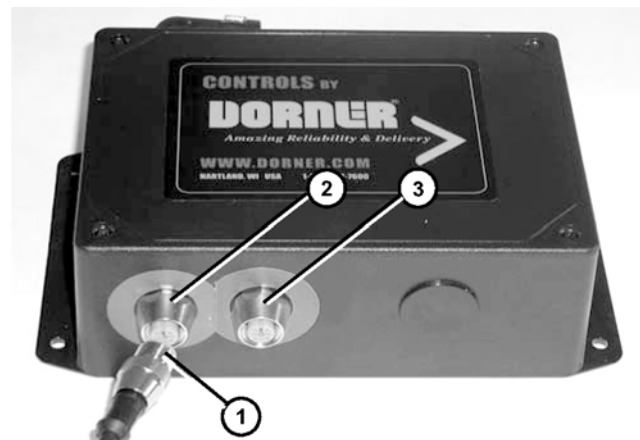
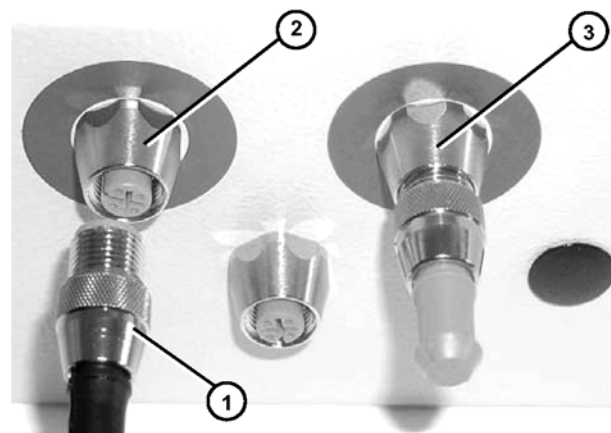

Figure 11
Figure 12
2. Connect opposite end of linking cable kit (**Figure 11, item 1**) and (**Figure 12, item 1**) to the blue port (**Figure 11, item 2**) and (**Figure 12, item 2**) or green port (**Figure 11, item 3**) and (**Figure 12, item 3**) on the controller.